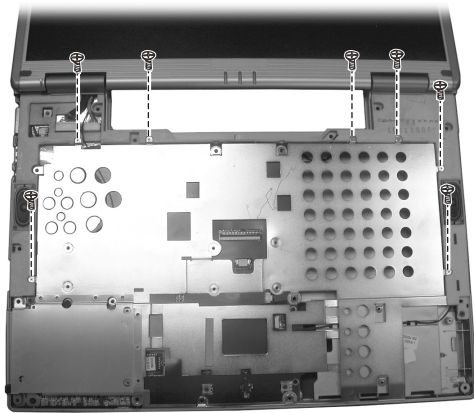

Figure 2-16 Remove the seven screws
4. Remove the seven screws and lift the top shielding up, then free the top shielding. (Figure 2-16)